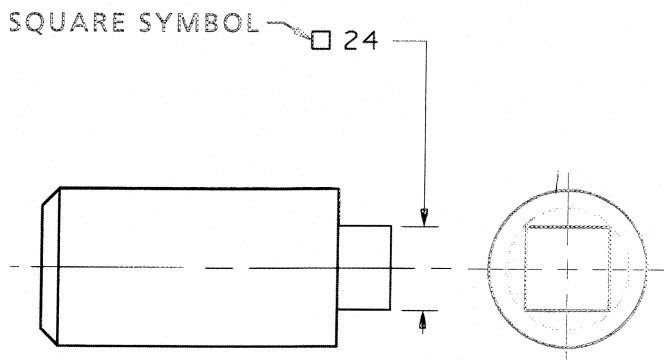

FIGURE 15.54 Square Dimensioning Symbol
- ✎ To indicate a single dimension applied to a square shape, the “square” symbol precedes the dimension (Fig. 15.54).